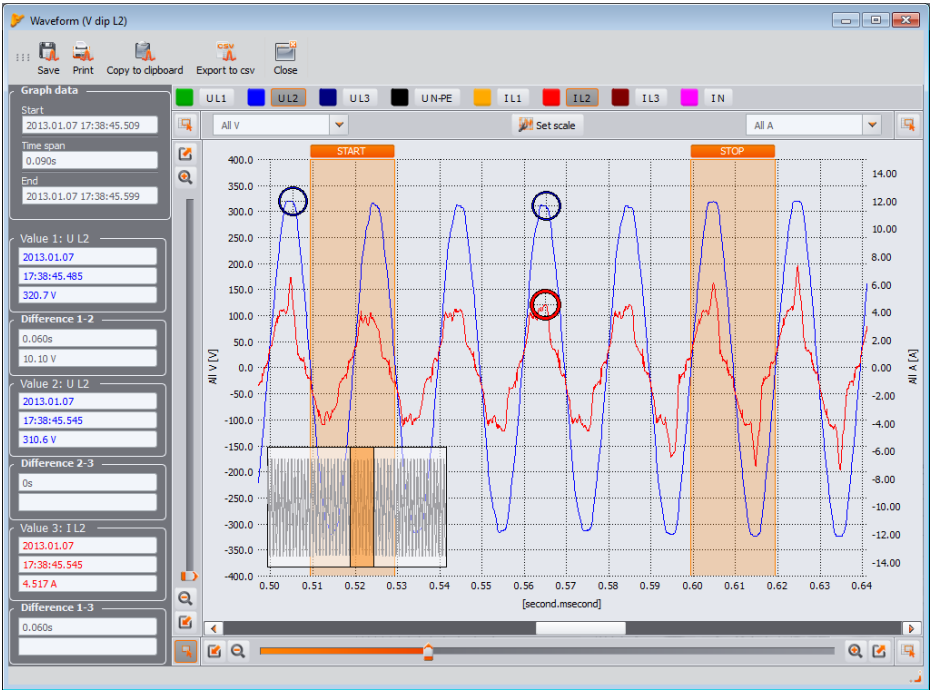
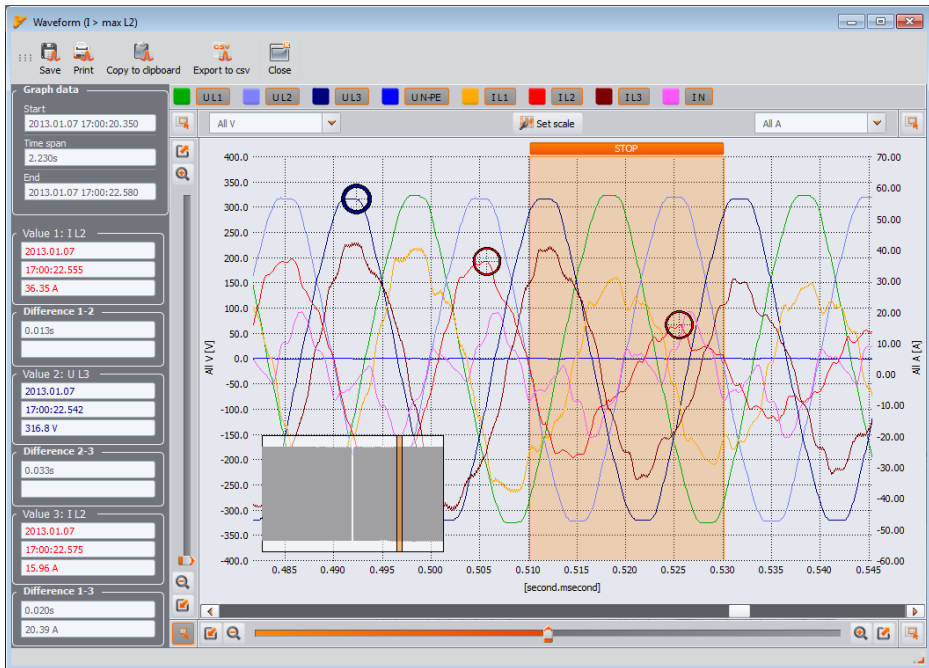
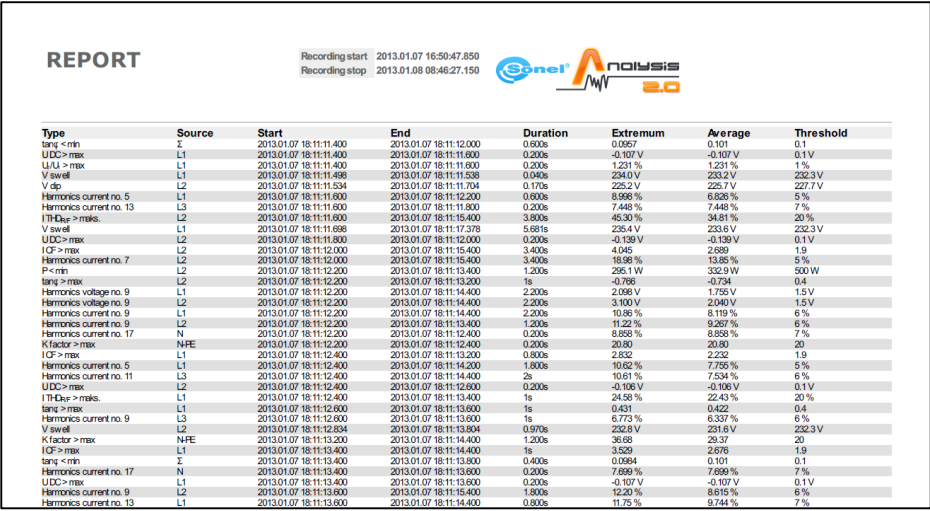

Fig. 57. Plot with a start and end waveform.
Fig. 58. Zooming-in a part of the waveform.
Fig. 59. Event Report.
- **Waveform** – waveforms of voltage and current (if any), i.e. during the events or at the end of an averaging period (Fig. 57). The waveform may be displayed by highlighting the line with available waveform and selecting **Plots**, option, and then **Waveform** option, or by double-clicking a given line,
Clicking on Waveform icon **4** enables waveform graphs and an accompanying graph showing RMS1/2 values (Fig. 58). **Open in a new window** option has the same functionality as in the data analysis. The waveform graph and RMS1/2 values may be also displayed by highlighting the line with the chosen event - in place with waveform icon and selecting **Plots→Waveform** option.
Fig. 57 presents an example of a waveform. As two waveforms are assigned to this event (start and end of the event), the colored boxes on the diagram mark the beginning (**Start**) and the end (**End**) of the event. In case of a short event, the waveform will be continuous. If the event duration is longer, there will be two waveforms (one at the beginning of the event and the second at the end). The plot may be freely zoomed-in as shown in Fig. 58. Operations on the plot are the same as in case of the timeplot.
Events listed in the table may be stored in the form of a report, after selecting **Report→Event Report** option. A sample *pdf* report is shown in Fig. 59.
*Actions for zooming-in/zooming-out, moving and others (including X activities) shown in Fig. 58, Fig. 57, Fig. 59 are similar to those shown in Fig. 53.*